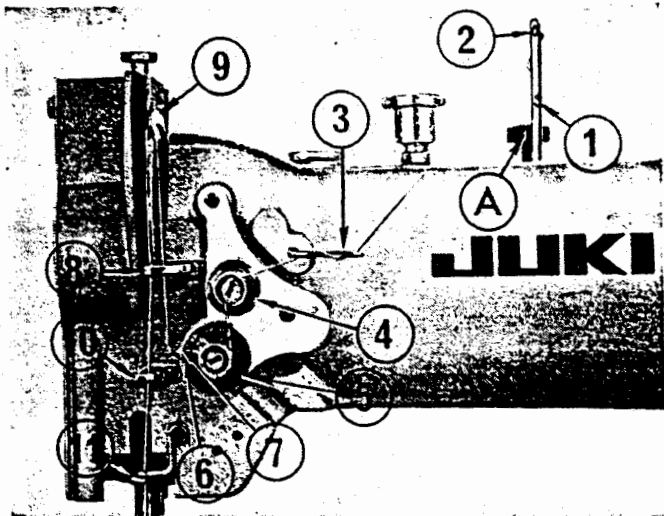

Fig. 10
10. How to thread the machine (Fig. 10, 11)
The pressure of the presser foot is adjusted by the presser foot adjusting screw (Fig. 10 A) atop the arm. To increase the pressure, turn this screw to right and to weaken the pressure, turn it to left.